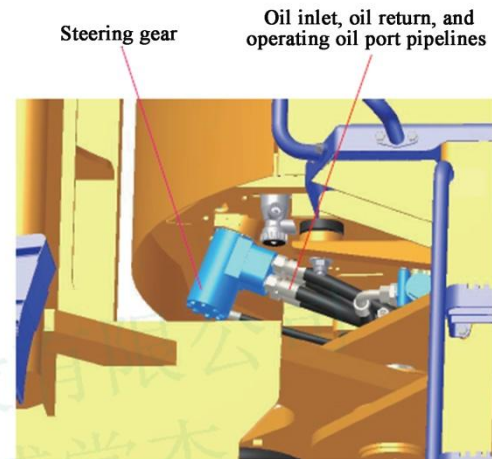
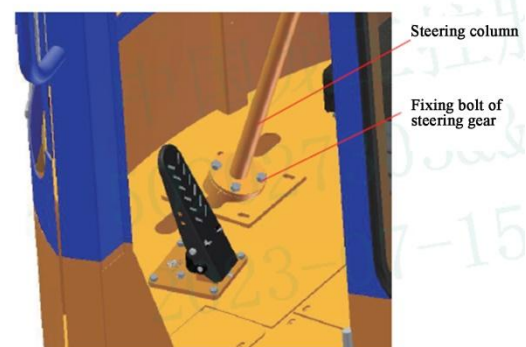

Fig. 5-12-01
Fig. 5-12-02
① The steering gear is installed under the cab floor and connected with the column tube assembly inside the cab through the pipe seat installed on the cab floor.
② Four M10×85 mounting bolts with spring washers;
① Release the pressure before removal, and then remove the connecting pipelines of 5 interfaces as indicated in Figure 5-12-01. The one with smaller diameter is the feedback pipeline on the side of steering gear;
② In case of oil leakage during removal, prepare an oil pan for standby; protect the oil port and mark it for reassembly;
③ Operate inside the cab in the following process: first remove the steering column cover, and then remove four M10×35 fasteners as shown in Figure 5-12-02. Meanwhile, cooperate with personnel outside to drag the steering gear (as shown in Figure 5-12-03);
① Check whether there are foreign matters in the inner cavity of each oil port;
② The screw plug and pressure regulating fastening end on the steering gear shall not be loosened without permission;
① Pay attention to the assembling direction of steering gear during installation, with 4 sets of oil port ends pointing to the rear side of vehicle body;
② Check whether the connecting paper pad is in good condition, and replace it if damaged;
③ Check whether the cross connecting sleeve is installed and assembled with the flat square under the steering shaft;
④ Assemble four M10×85 bolts (with spring washers) as shown in Figure 5-12-02;
⑤ Install the steering column cover;
⑥ The following operations shall be carried out outside the cab: Install the connecting pipelines with 5 interfaces according to the instructions in Figure 5-12-01. The one with smaller diameter is the feedback pipeline on the side of the steering gear.